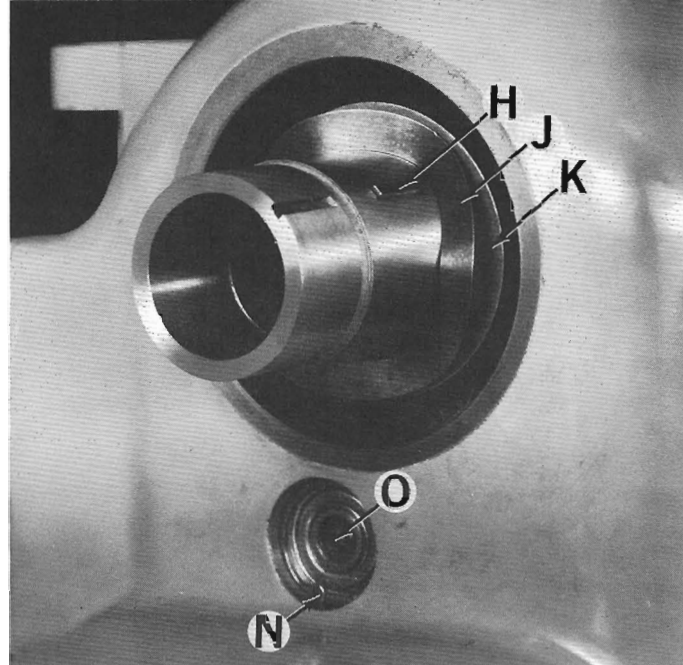
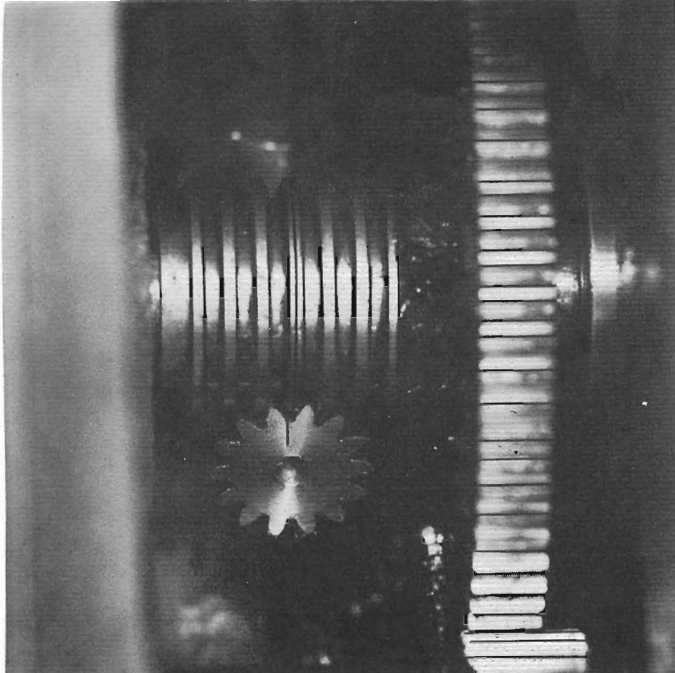

Figure 15 — Handwheel Washers and Key
Figure 21 — Timing Marks for Pinion and Worm
(D). Remove key "H", Figure 15, and washers "J" and "K".
(F). Remove snap ring "N", Figure 15.
15. Back off push screw "O", Figure 15. Replace idler gear shaft and bearing, Figure 17. (Match timing marks on gear and worm, Figure 21.) Replace snap ring "N", Figure 15.
3. Remove key "H", Figure 15, and washers "J" and "K".